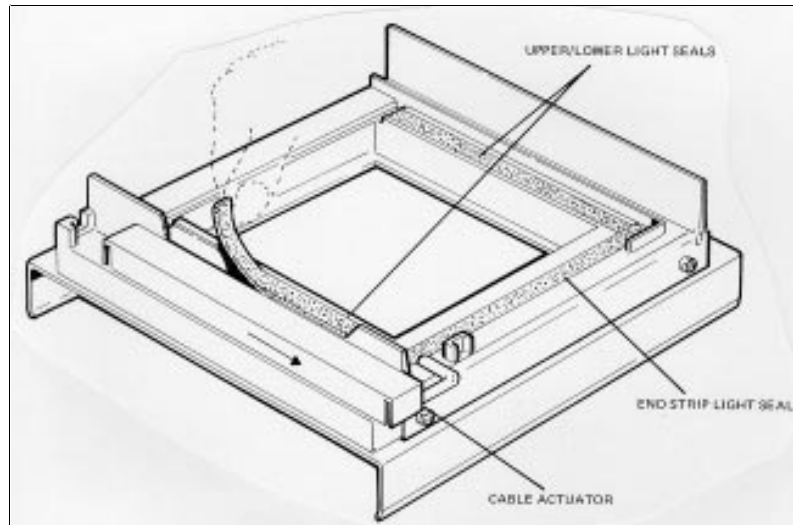

Figure 5-14. Replace Felt Light Seals
3. Fixed Head Camera Back Felt Light Seal Replacement (figure 5-14)**a. Removal**